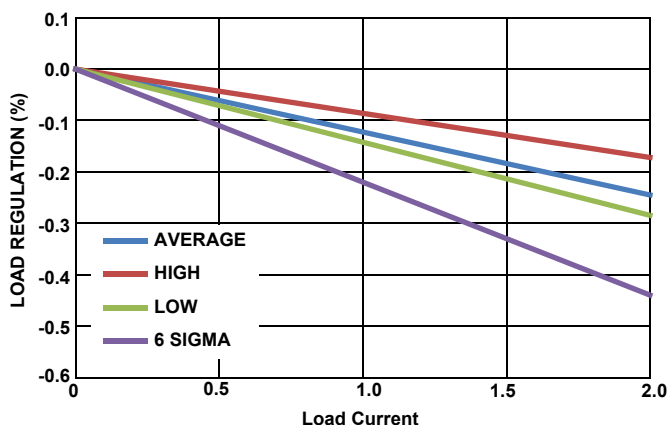

FIGURE 12. LOAD REGULATION,  $T_A = +105^\circ\text{C}$ ,  $2.7\text{V}_{IN}$ ,  $0.6\text{V}_{OUT}$ ,  $1\text{MHz}$
- Not tested in production. Characterized using evaluation board. Refer to Figures 12 through 14 load regulation diagrams.  $+105^{\circ}\text{C}$   $T_A$  represents near worst case operating point.